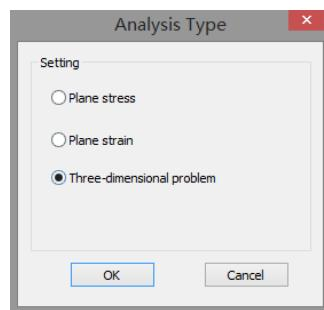

Figure 47 Definition of analysis type
- (4) Define the analysis type (Figure 47);